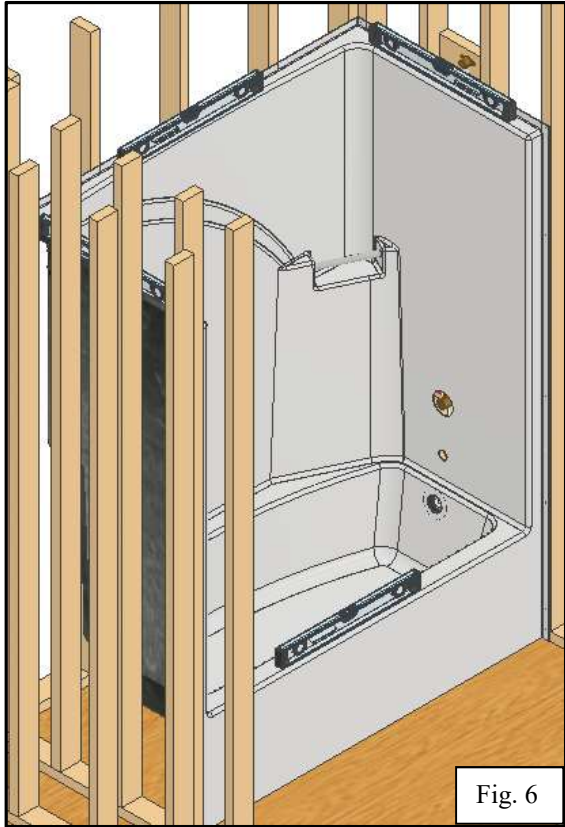

Fig. 6
- 5) After unit is positioned in framed area, check level of shower and make sure that apron is tight down on the floor. (Fig. 6, 7, & 8)